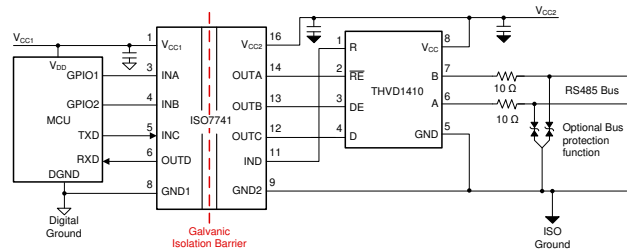
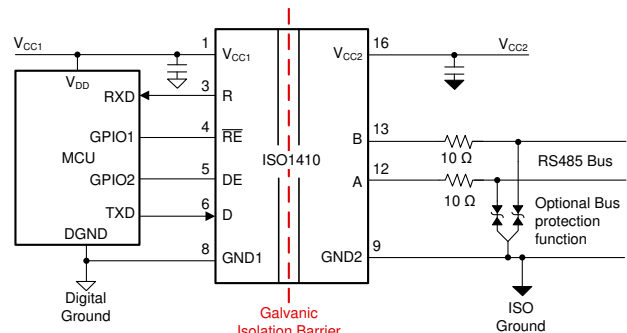

Figure 1. Discrete Implementation of Isolated RS-485 using ISO7741 and THVD1410
Figure 2. Integrated Solution for Isolated RS-485 using ISO1410
There are two common methods for isolating the signal for an RS-485 system. The first method is a discrete solution of a digital isolator and RS-485 transceiver. In this solution, the enables (RE, DE), transmit (D), and receive (R) signals are isolated using a digital isolator such as the ISO7741 between the MCU and the RS-485 transceiver. Figure 1 shows an example of this solution with ISO7741 and an RS-485 transceiver such as the THVD1410. One key advantage of the discrete solution is the flexibility to choose the best transceiver for the specific application. However, the discrete solution comes with the drawback of requiring additional board space because of the multi-chip solution.
By combining the isolator and transceiver into one package, this solution provides system-level board space reduction compared to the discrete solution. Figure 2 shows how the discrete solution from Figure 1 can be replaced with the ISO1410.